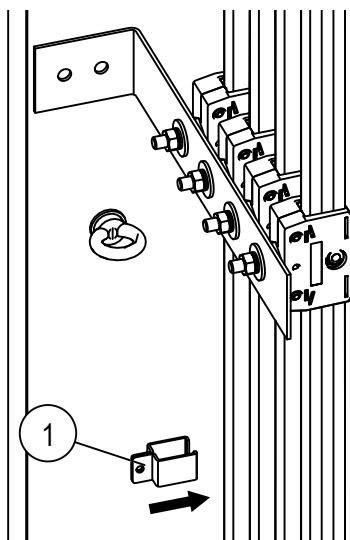
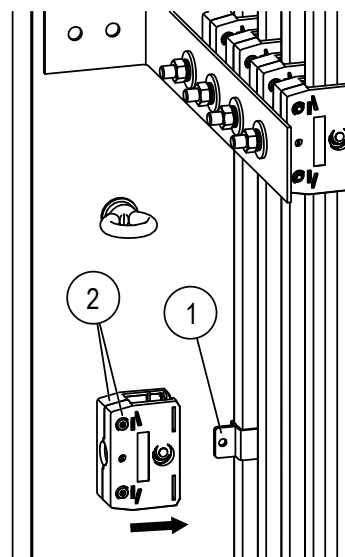

Fig. 37: Clip fall arrest device retaining plate (Pos. 1) into rail
Fig. 38: Hang housing halves (Pos. 2)
- Clip the retaining plate halves (Pos. 1) of the fall arrest device over the insulating profile. Hold the retaining plate halves with one hand and with the other hand, hang the housing halves in the direction of the arrow (Pos. 2) (see Fig. 37 and Fig. 38). Ensure that the screw heads of the cylinder screws face outward, i.e. they are turned away from the customer's support structure.